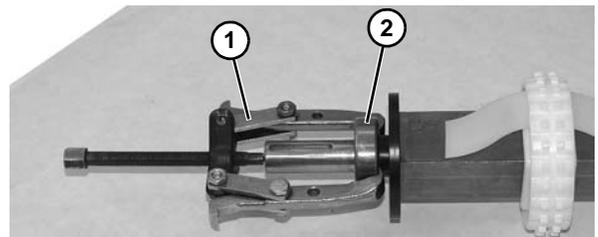

**Figure 69**
11. Remove shaft assembly (**Figure 69, item 1**).